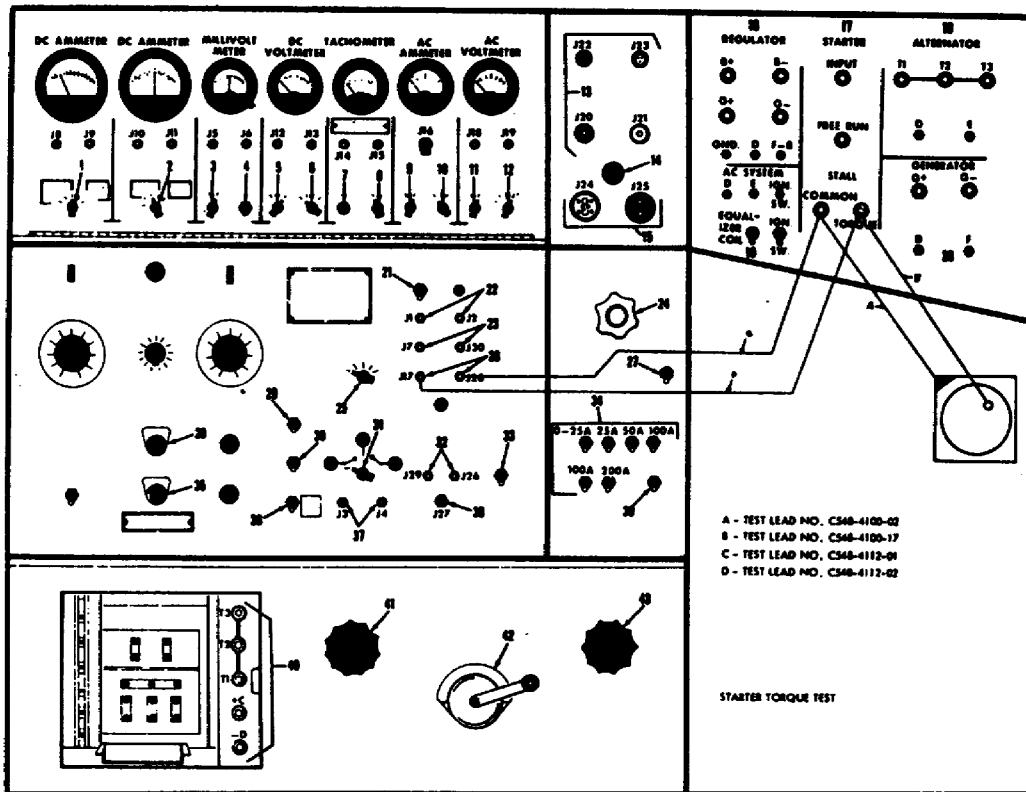

Figure 34. Torque test.
(2) The stall torque test (fig 34) is performed to determine the amount of torque, in foot-pounds, exerted by the starter when under load. This test must be short in duration and the torque arm must be securely attached with the scale support bolted down securely (fig 32).
(a) Figure 34 shows the connections to the 500-ampere test stand. The main difference between free run and torque connections are the DC ammeter shunts. Since the starter is not allowed to turn, it doesn't build up any back EMF. Therefore, the starter will have a very low resistance and cause an extremely high current drain.